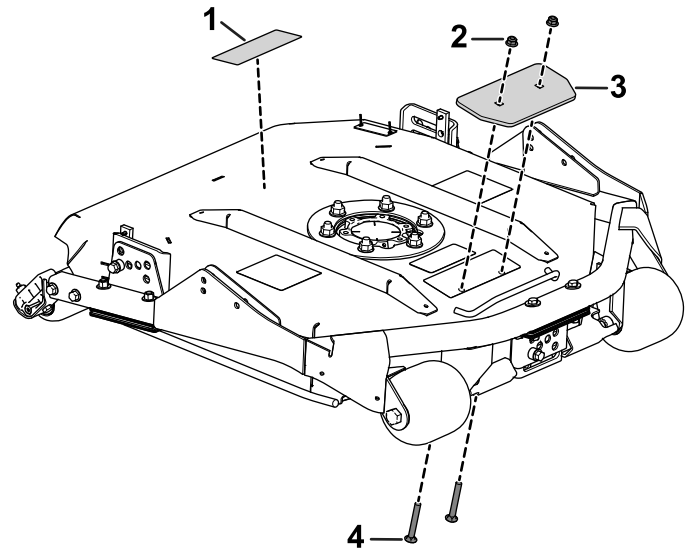

Figure 2
4. Use the flange nuts to secure the ballast plates to the cutting unit (Figure 2).
5. Attach the height-of-cut decal toward the rear of the cutting unit (Figure 2).
3. Place a slotted screw through each drill hole (Figure 2).